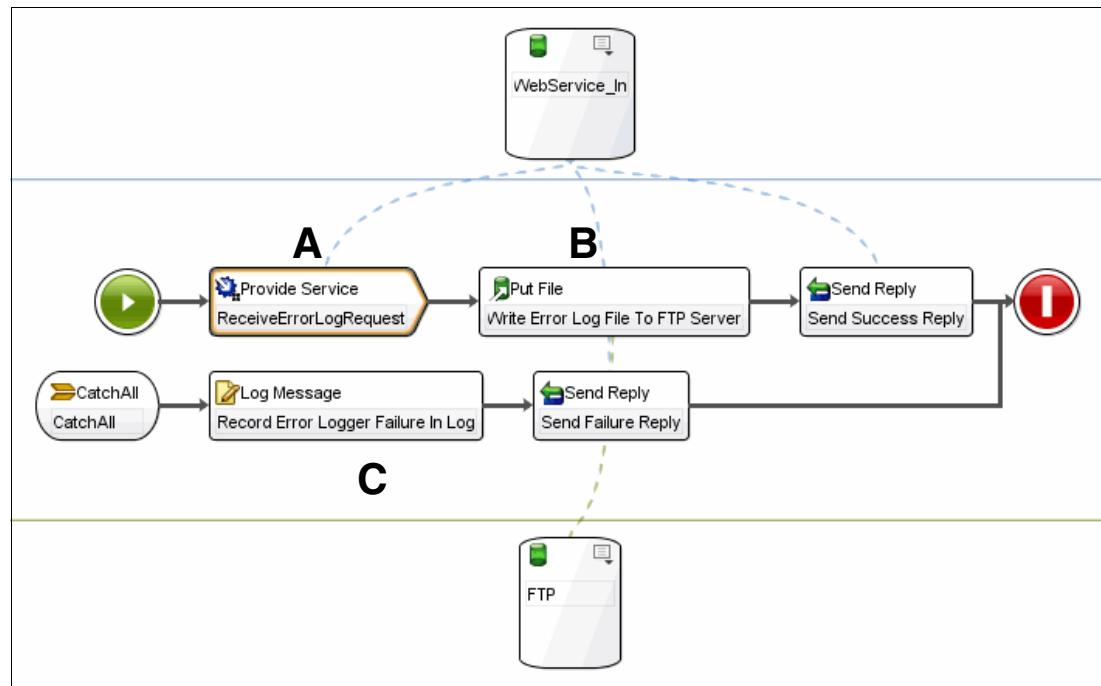

Figure 9-2 The common error handler orchestration
Figure 9-2 shows the common error handler orchestration. The endpoint WebService_In has a Type of Provide and a Transport of HTTP. The Port and Path fields use the following configuration properties:
In the orchestration in Figure 9-2, the Provide Service activity (A) copies its input data to an output variable called *commonErrorHandlerData*. The activity is configured to require a response. The two associated Send Reply activities send a success or failure string message back to the calling orchestration. The activity has an Activity Name of *ReceiveErrorLogRequest*.